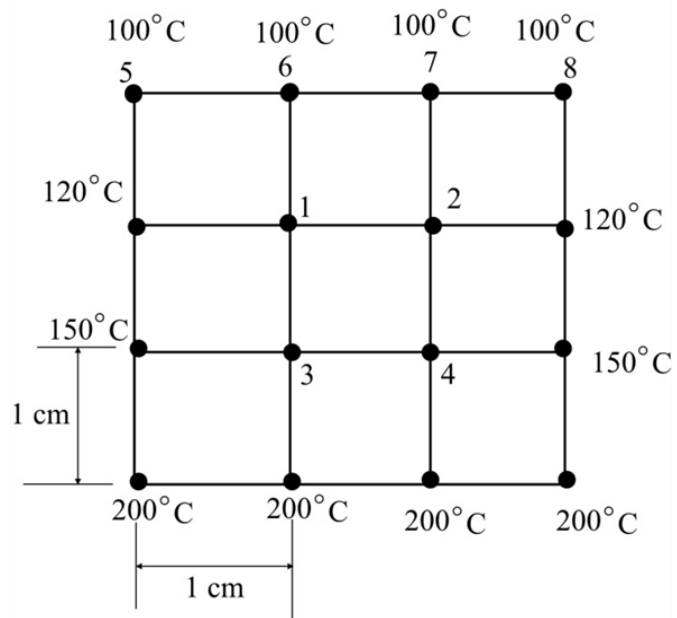

Figure 1
4. Obtain the temperatures for nodes 1, 2, 3 and 4 as shown in Figure 1 by using numerical method technique. Also find the amount of heat transferred at each faces.